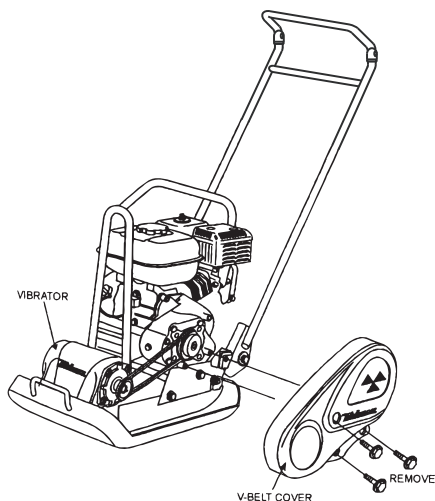

Figure 7. V-Belt Cover Removal
1. To check the V-belt tension, remove the three bolts that secure the belt cover to the frame as shown in Figure 7.